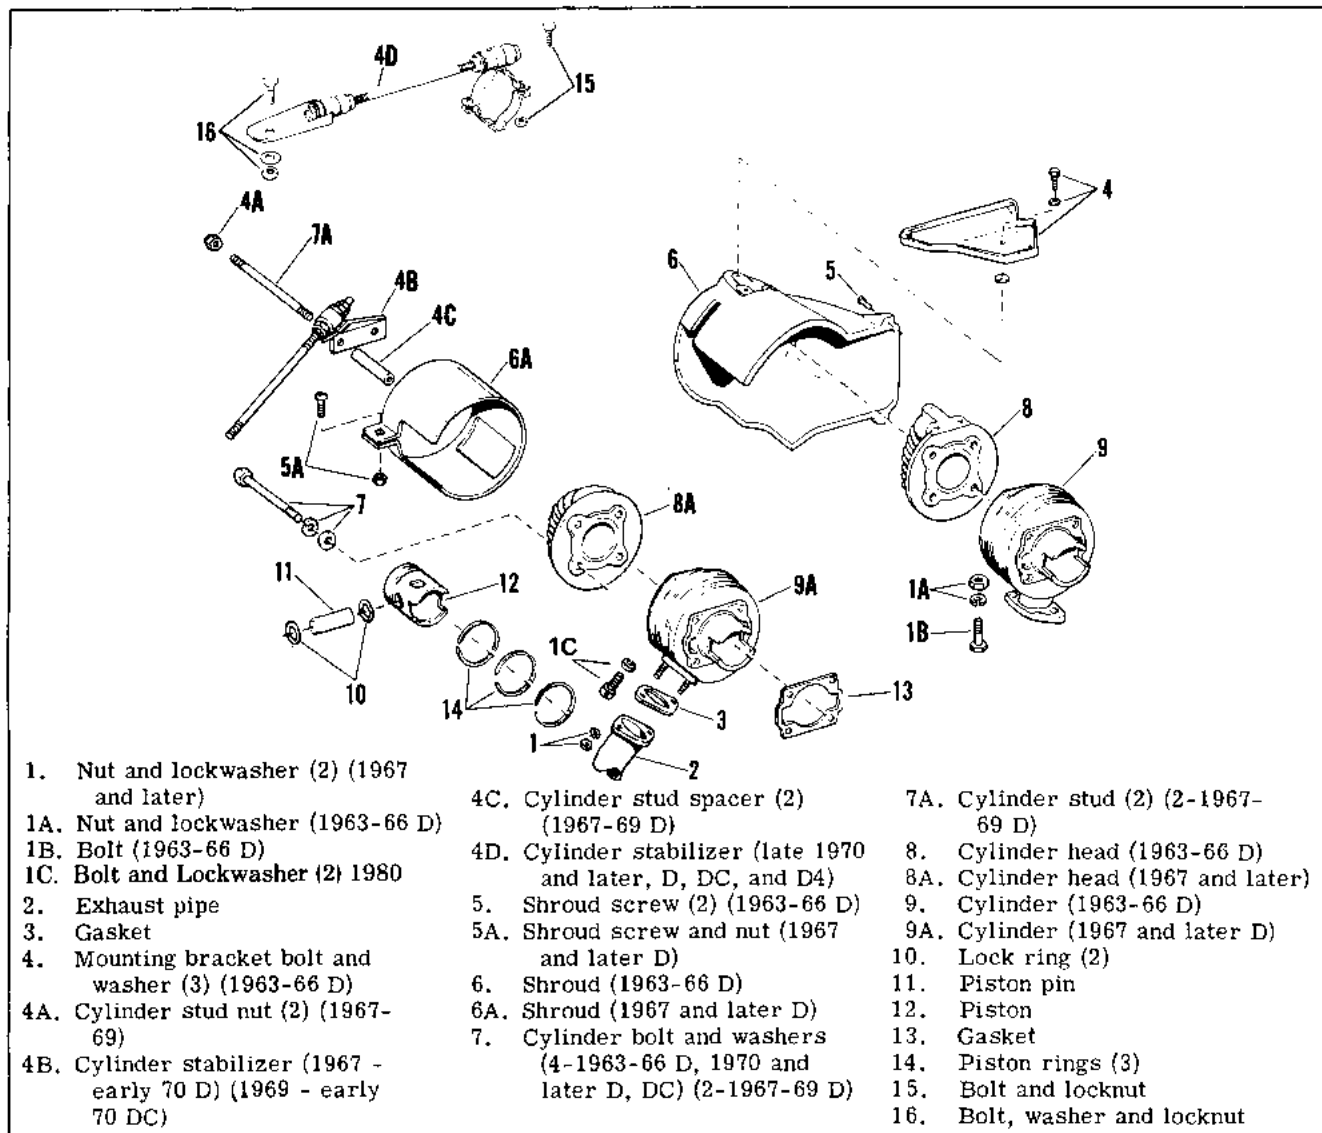

Figure 3C-68. Cylinder and Piston - Exploded View
Remove exhaust pipe nuts and lockwashers (1 or 1A and bolts 1B) to disconnect the exhaust pipe (2) and flange gasket (3) from the cylinder (See Fig. 3C-68).
#### DISASSEMBLING CYLINDER AND PISTON (Figure 3C-68)